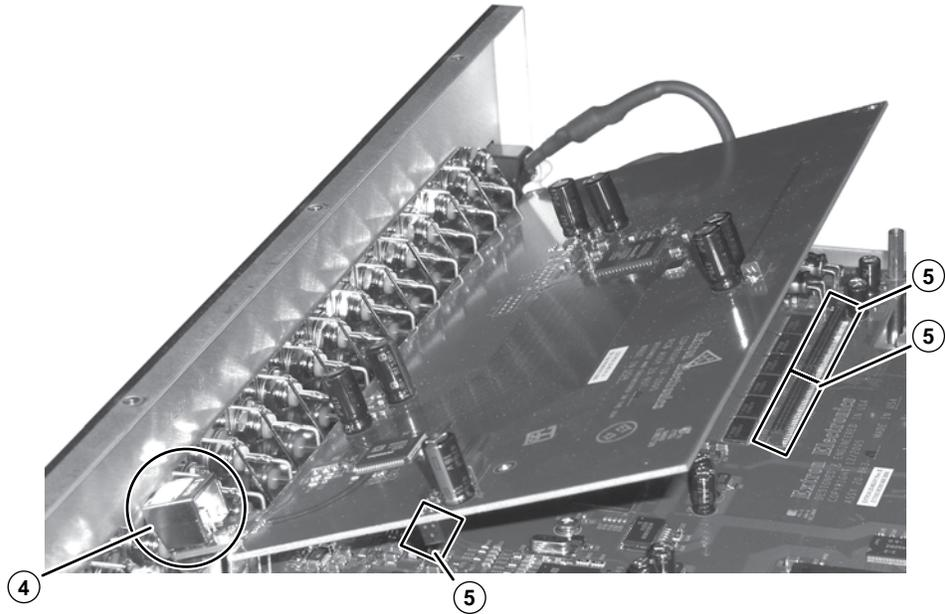

Figure 7-3 — Input board installation
3. From the inside of the switcher, pop the cover out of the rear panel connector port (③).
4. See figure 7-3. Tip the input board up and guide its output connector through the rear panel connector port (④).
5. See figure 7-3. Align the connectors on the main board and input board (⑤). Gently apply pressure to carefully mate the board with the main board.